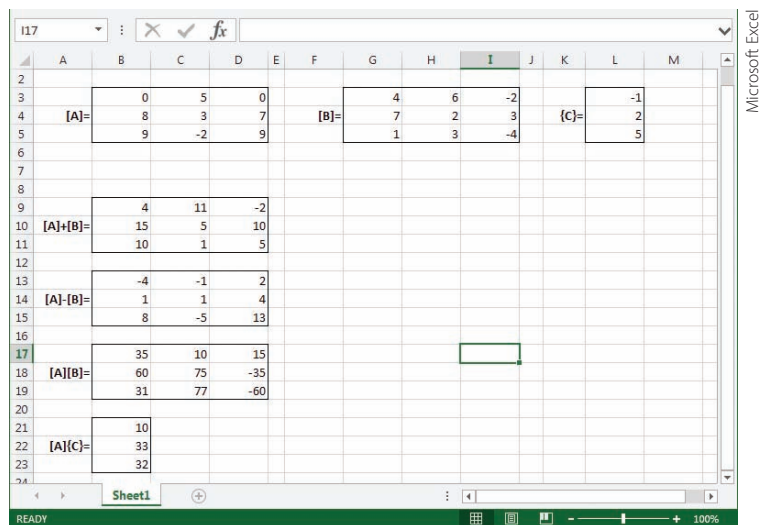

FIGURE 14.40
5. In the Formula bar, type $=\text{MMULT}(\text{B3:D5}, \text{G3:I5})$, and while holding down the **Ctrl** and the **Shift** keys, press the **Enter** key. Similarly, you can perform the matrix operation $[A]\{C\}$. First, you pick cells B21 through B23. Then in the Formula bar type $=\text{MMULT}(\text{B3:D5}, \text{L3:L5})$, and while holding down the **Ctrl** and the **Shift** keys, press the **Enter** key. This sequence of operations will create the result shown in Figure 14.40.